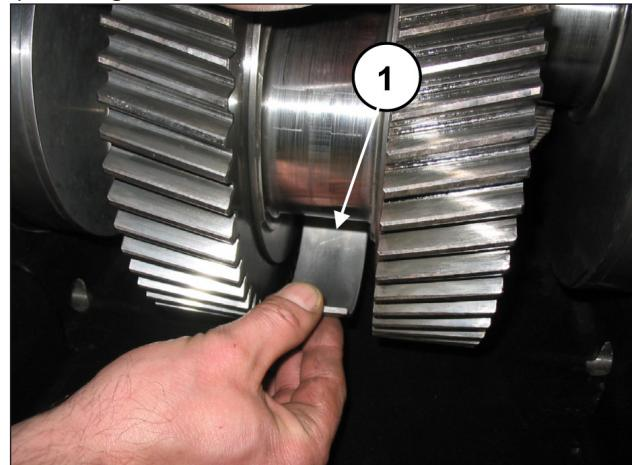

Fig. 19
Remove the three upper half-bearings of the half-conrods (pos. ①, Fig. 19).